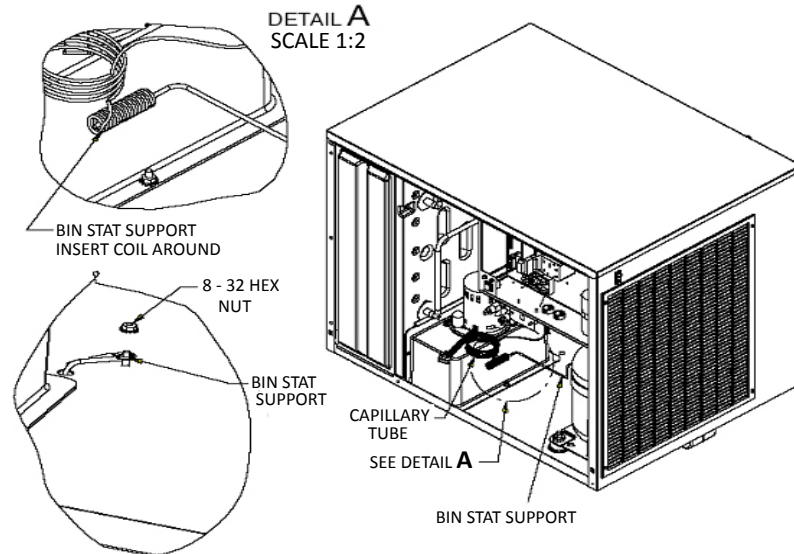

Figure 3.
8. The next step is to secure the icemaker to the kit. Use the brackets (supplied) as templates to drill four 9/64" (.140"Dia.) holes into the adaptor kit (2 per side). When drilling holes the maximum distance from the back of the kit is 7.50 inches (refer to Figure 3.) Failure to comply will result in damage to the sliding arm mechanisms internal to the kit. Drill four holes of the same diameter into the icemaker (2 per side). Ensure the location of the brackets will not damage the kit or the icemaker prior to drilling any holes. **USE EXTREME CAUTION NOT TO DRILL INTO ANY OTHER COMPONENTS.** Drill depths should not go further than the thickness of the material being drilled (just enough to go through). Secure the two brackets using the screws provided.